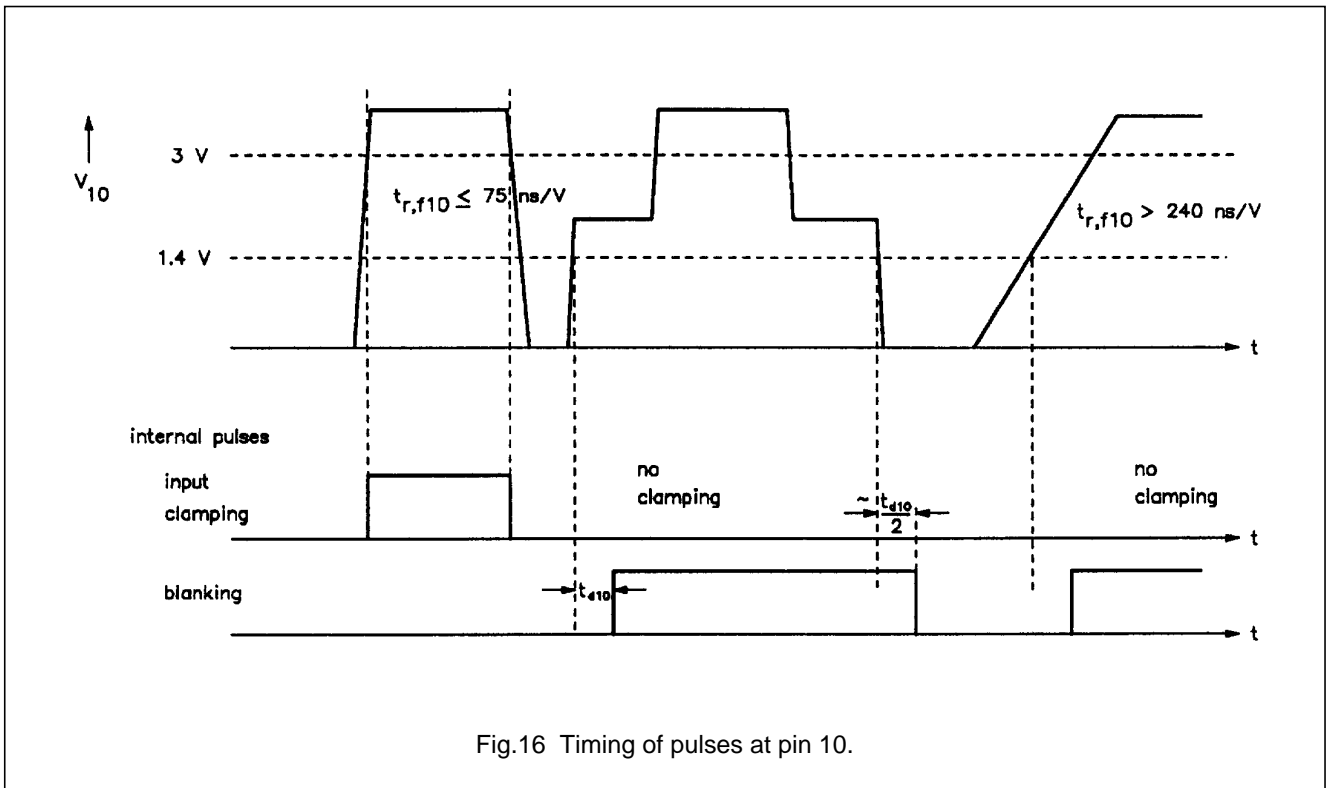

Fig.16 Timing of pulses at pin 10.
17. For $75 \text{ ns/V} < t_{rf10} < 240 \text{ ns/V}$ generation of internal input clamping and blanking pulse is not defined. Any pulses not exceeding the threshold of input clamping (typical 3 V) will be detected as blanking pulse. Timing of pulses at pin 10 see Fig.16.